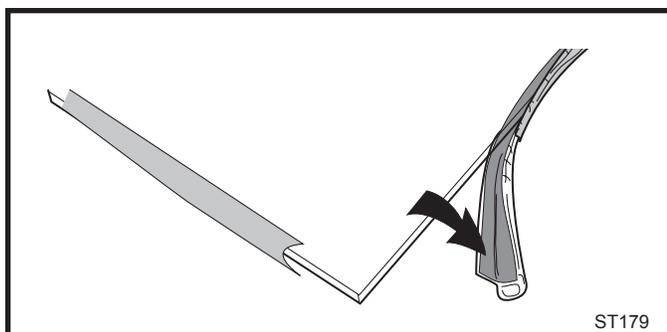

Fig. 85 Wrap the gasket material around the outside iedge of the glass.
3. Starting on a long edge, remove about 6" of the protective paper strip and apply the flat adhesive face of the gasket around the outside-facing edge of the panel. Continue around the panel, applying a bout 6" at a time and being careful to not stretch the material. Do not overlap the gasket ends. (Fig. 85)